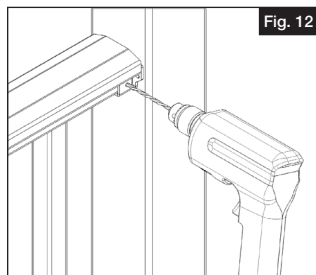

Fig. 12
- Using a $\frac{5}{32}$ " drill bit, predrill the top rail in the side of one of the locations (outside the rail) on the metal bracket. Install #10 x 1" screws in pre drilled holes of each of the metal brackets (Fig 12).